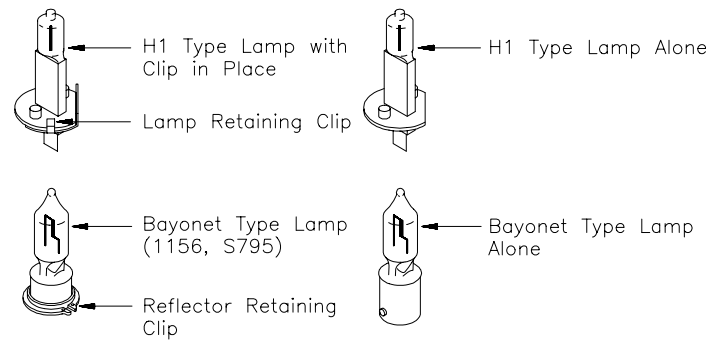

Figure 7
Remove the lens as outlined above. Next, inspect the lamp and compare to Figure 7 to determine lamp type. It may be necessary to remove any rotating or cylindrical filters to make access easier. Note: Make sure lamp is cool before attempting to change it. Also, when installing a new lamp, be sure not to touch the glass with fingers. If contact is made, clean the glass with a soft cloth after inspection.
**H-1: Style.** First grasp lamp at base and turn until retaining clip tab is accessible. Using a blade screwdriver, remove retaining clip and pull lamp straight up. Replace with new lamp. Insure that the power lead and retaining clip is fully seated. (See figure 7)
**Bayonet Style:** Push down and turn to remove lamp. Install a new lamp the same way. (SEE FIGURE 7)